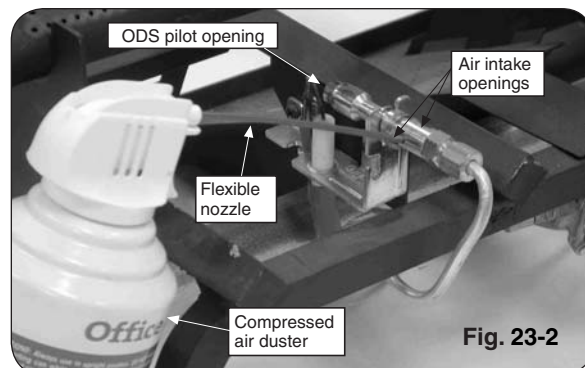

Fig. 23-2
2. Clean out both air intake openings (see Fig. 23-2) by lightly brushing around the openings while vacuuming. Note: It is very important that the air intake openings be kept clear of debris. Should the openings become blocked, the ODS pilot system will not operate properly.
4. If the ODS pilot flame does not burn as indicated in the instructions, extinguish the ODS pilot by turning the valve to the full **OFF** position. Using a compressed air duster (commonly available at computer, electronic or office supply stores), insert the flexible nozzle through either air intake openings, insuring that the nozzle is pointed toward the ODS pilot opening (see Fig. 23-2). Blow air through both air intake openings to clear out any debris that may be in the system.